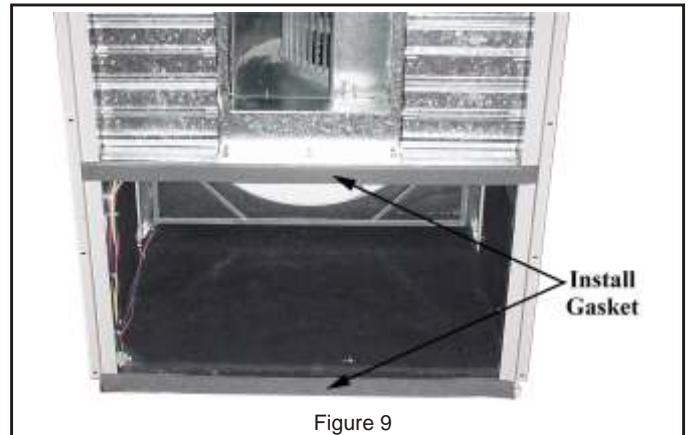

Figure 9
1. Apply 3/4" x 1 1/4" gasket to top and bottom decks of ERS as shown in the figure. **See Figure 9.**